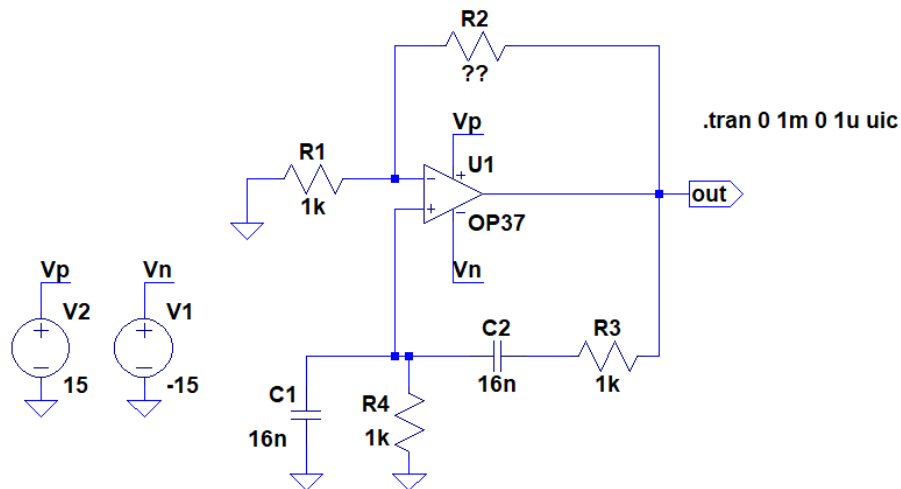

Fig. 10. Wien bridge oscillator.
2. Draw the Wien bridge generator circuit according to Figure 10.